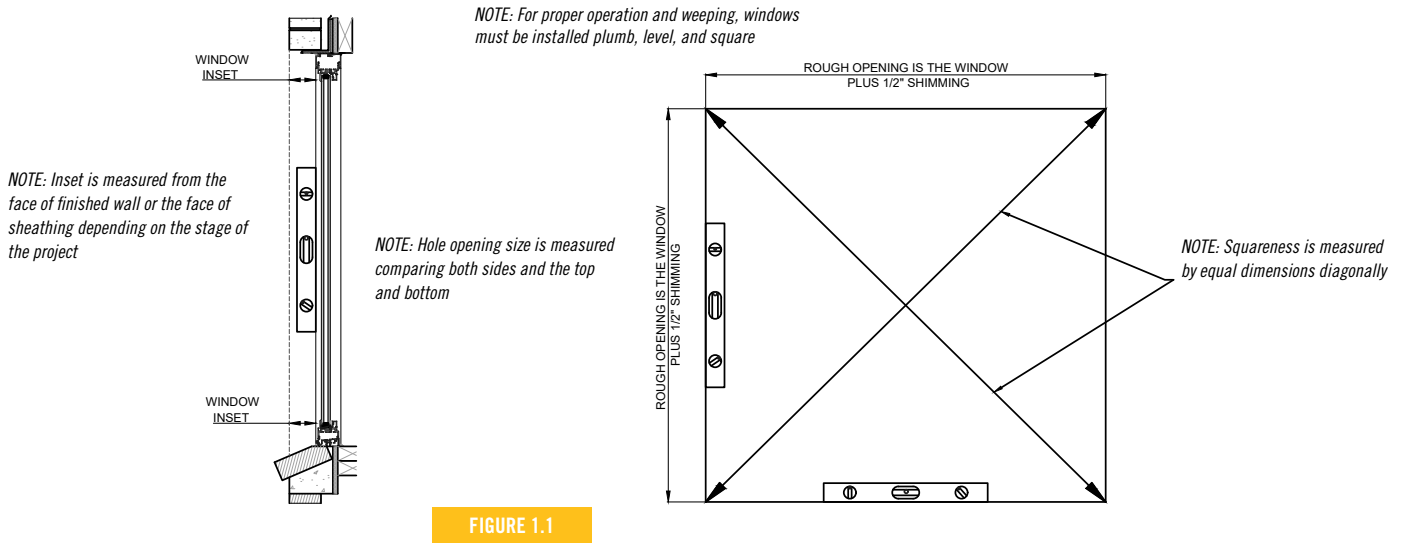

FIGURE 1.1
- Identify any high points on the sill openings. Using a level and string line, follow *Figure 1.1* to find any out of square or out of level places, as this will be important when installation begins. Any damage to the sill or opening structure will need to be fixed before installation can begin.
- Using the architectural drawings or shop drawings, establish a window face line at the head, jambs, and sill. This sets the inset distance into the wall location from the exterior wall face. See *Figure 1.1*.